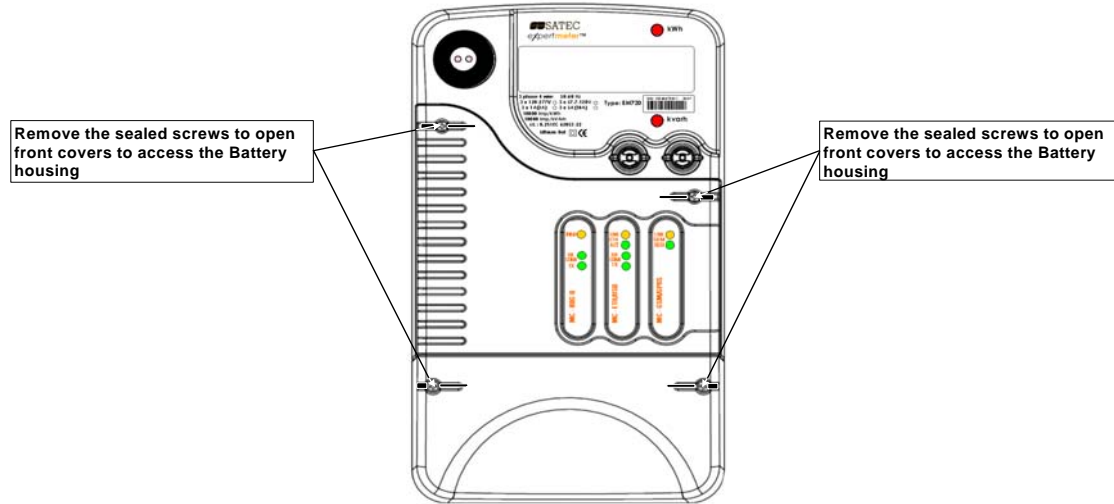

Figure 26: Front covers removing
3. Replace the battery - with the plus towards the outside, as in figure 26, and close the battery housing